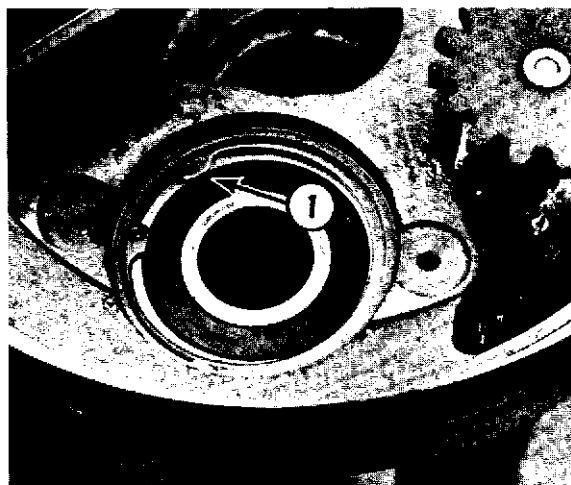

Fig. 10-10
F. Remove the retaining ring (1, Fig. 10-10) and lift out the upper agitator shaft bearing.